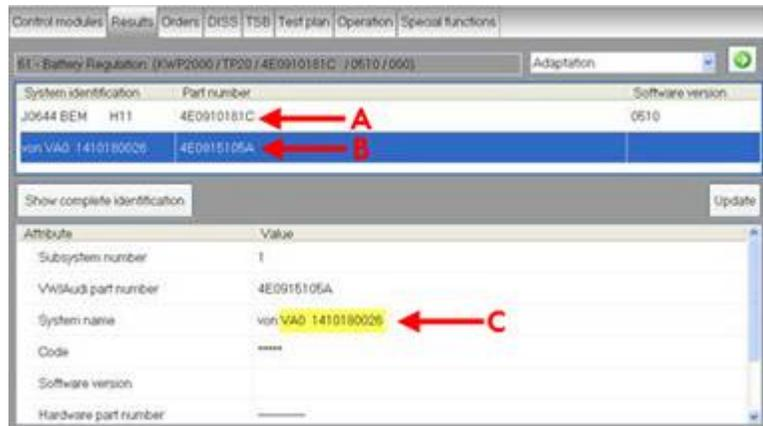

Figure 11. Identification screen.
3. In the Identification screen (Figure 11), highlight the battery line (B).